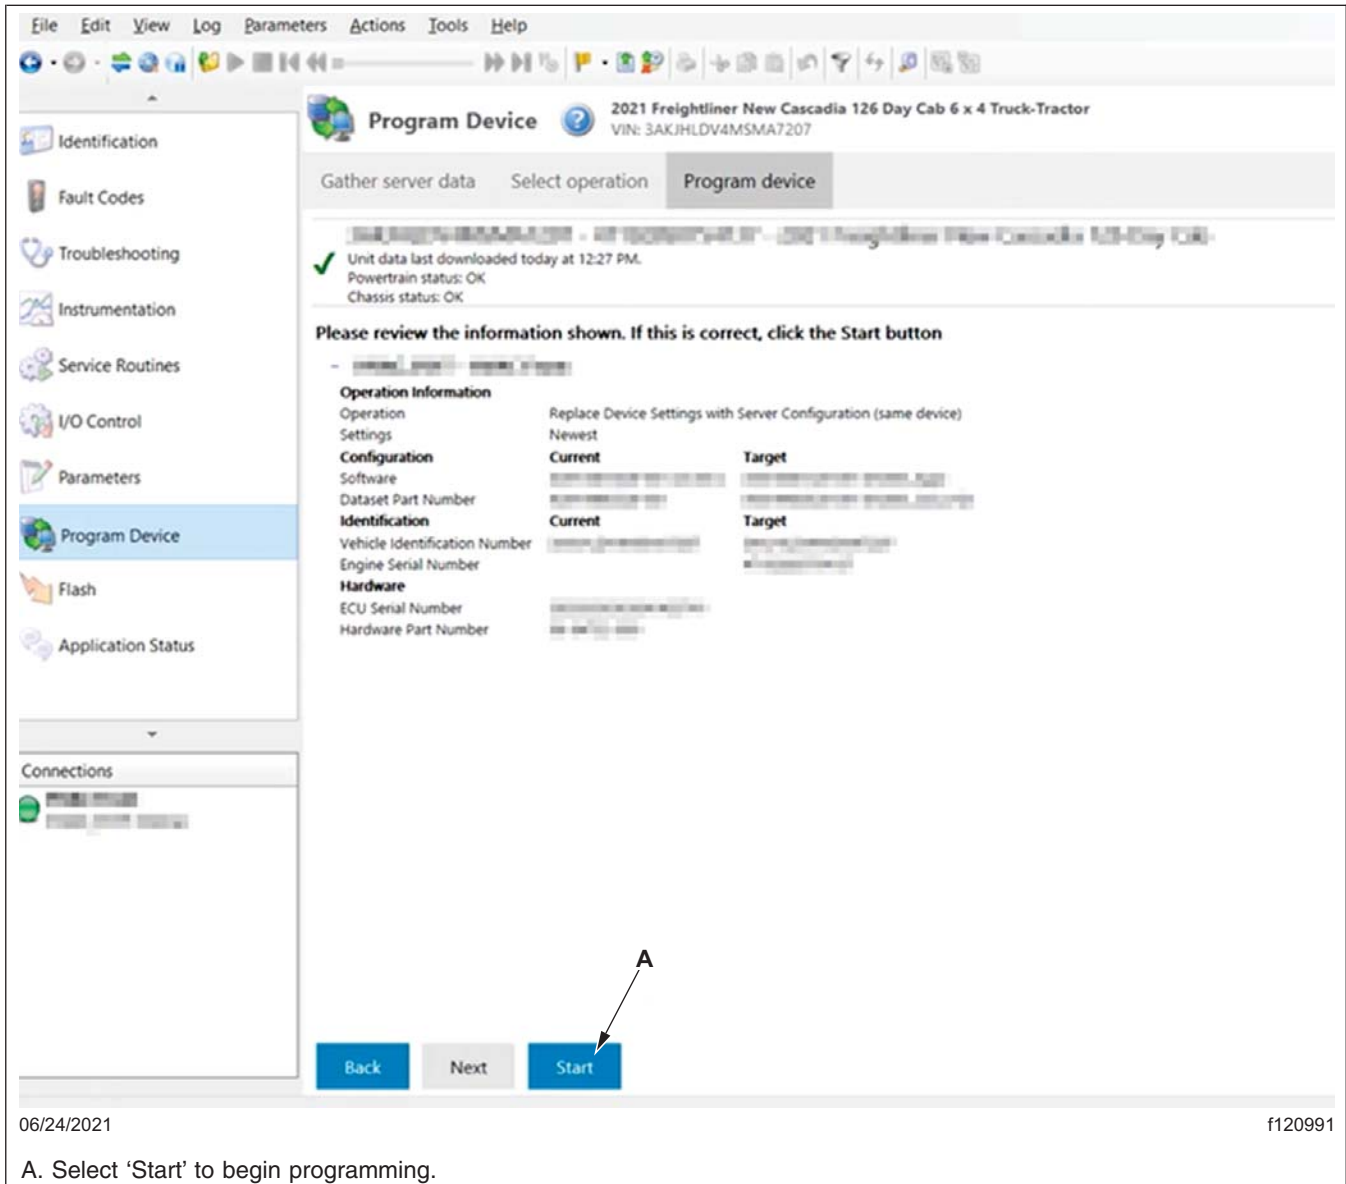

Fig. 9, Starting the XMC Programming
10. Verify the VIN, hardware and software information, then select 'Start' to program. See Fig. 9.